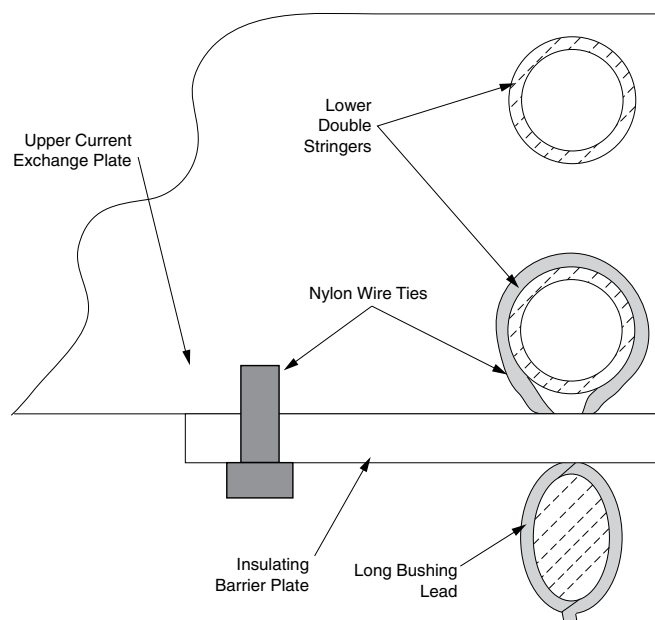

Figure 16. Typical representation of nylon wire tie "Figure 8" configuration
14. Position the upper and lower interrupter clamps just below the shoulder on the finger-type current exchange connectors, so that the clamping force will be applied to the center of each. Refer to Figure 16.
15. Position the interrupter so that one of the hex nuts at the top of the interrupter is centered directly beneath the gap on one side of the upper clamp. Refer to Figure 16.